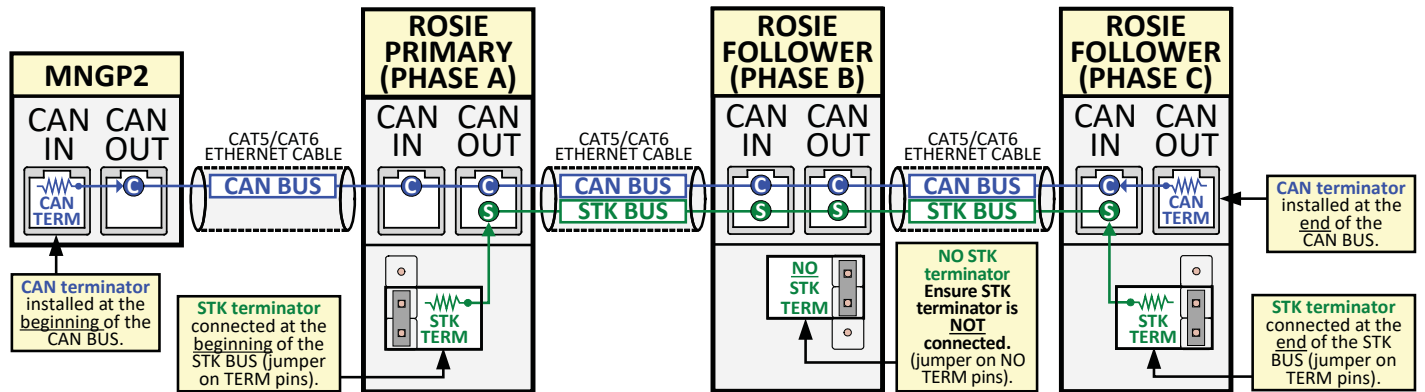

Figure 3, Properly Terminating the CAN and STK BUS Networks
The MNGP2 remote and each Rosie inverter has two RJ45 connectors marked CAN IN and CAN OUT for ethernet cable connection. The ethernet cables, wired as a Cat5/Cat6 straight-thru/patch cable, allow multiple ROSIE inverters to communicate. The Rosie cable supports two separate network/bus sections: the CAN BUS section handles inverter/charger messaging, while the STK BUS section manages stacking messaging. Proper termination of each section is critical for maintaining signal/communication integrity, which is achieved by placing a termination resistor (i.e., Terminator) at the ends of each network/bus (see Figure 3).
**IMPORTANT:** As shown in Figure 3, terminators are only placed at the beginning and end of each network/bus. Ensure all devices between the beginning and end devices DO NOT have a terminator installed.